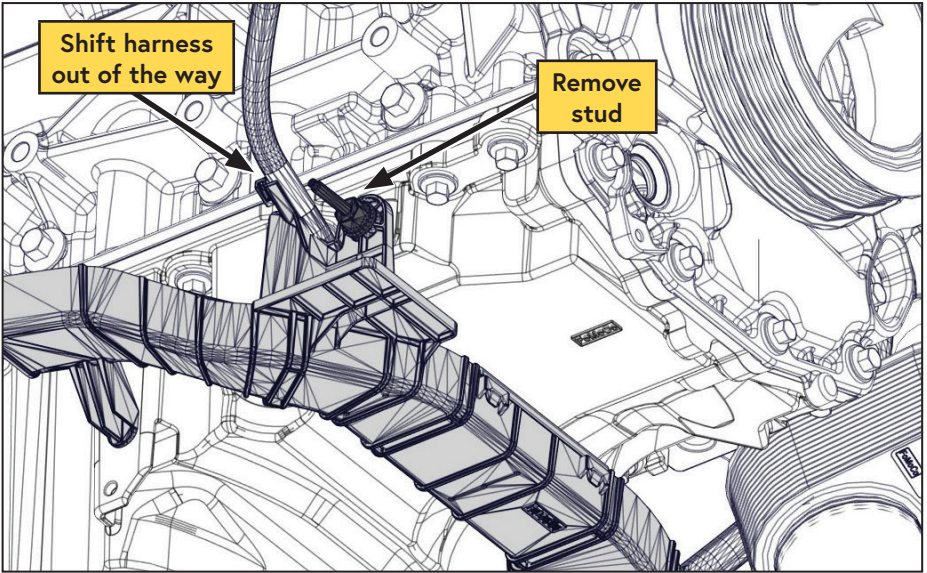

Figure 15 — Remove cable tray
- Remove and discard the stud securing the passenger side of the cable tray. Pull the tab off the mounting stud and push the wiring harness out of the way (Figure 15).